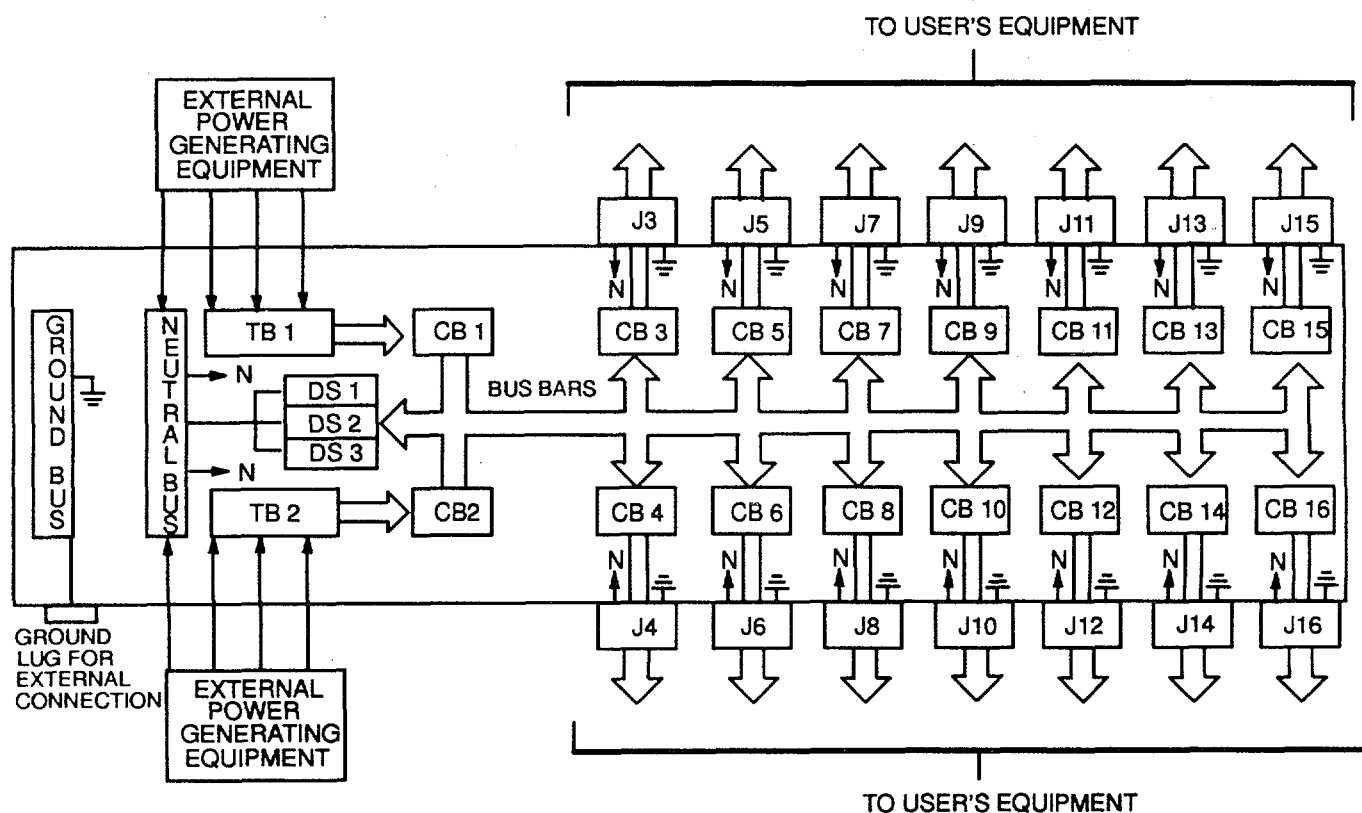

Figure 1-3. Power Distribution Panel Block Diagram.
**1.11 PRINCIPLES OF OPERATION (FIGURE 1-3).**